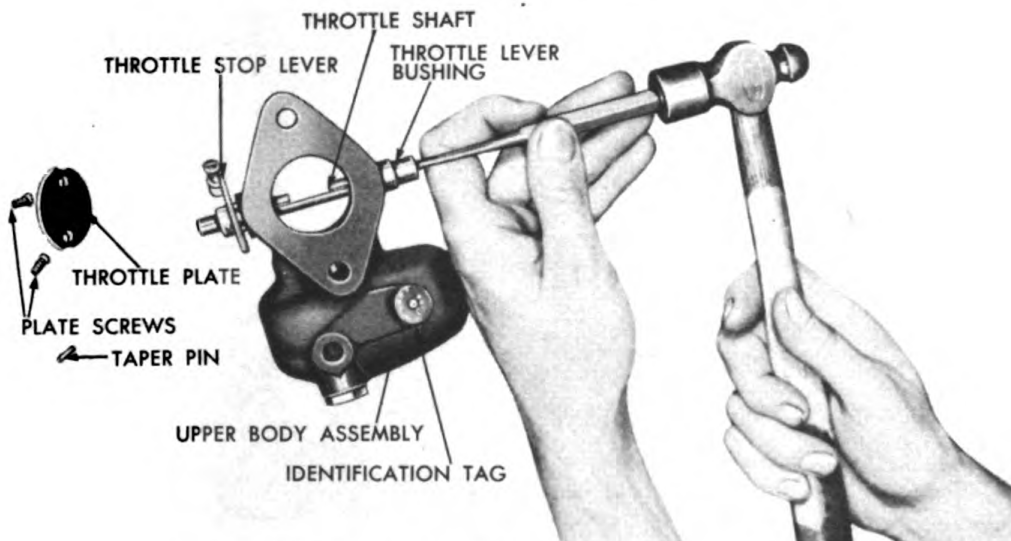

Figure 287. Removing Carburetor Throttle Shaft.
- a. Install throttle shaft. Insert throttle plate and make certain it fits closely to the barrel all the way around when closed and with the stop screw backed out away from the stop pin. When the throttle plate has been properly centered, hold firmly in closed position while the throttle screws are tightened securely. See figures 287 and 286.
- b. Adjust throttle stop screw to hold the throttle plate just slightly open. See figure 287.